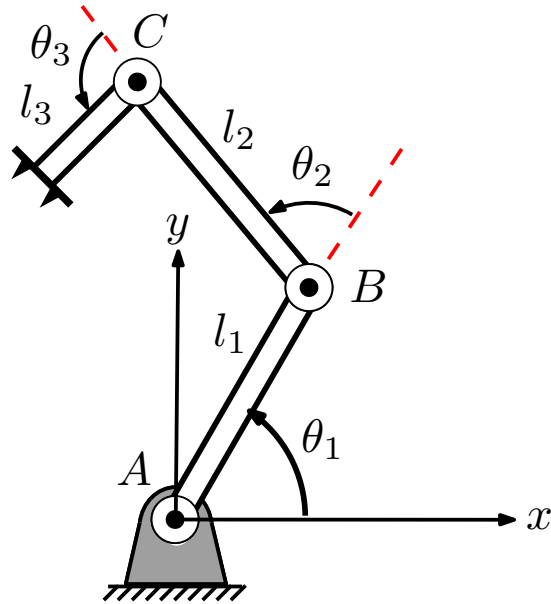

Figure 3.2: 3-DOF serial robot.
Obtain the dexterity of a 3-DOF planar serial manipulator, depicted in Fig. 3.2, by:
Fig. 3.2 represents schematically a RRR serial manipulator. Provide an optimal set of design parameters, i.e.,  $l_1$ ,  $l_2$  and  $l_3$ , for this serial manipulator, which compromises the best possible global dexterity, obtained in item 5 of Problem 6, according to the guidelines of the Differential Evolution (DE) optimization algorithm. The required optimization software codes for DE, developed by Mohammad Hossein Saadatzi, are available here. In case of any question, do not hesitate to contact Morteza Daneshmand: [mzdaneshmand@ieee.org](mailto:mzdaneshmand@ieee.org).